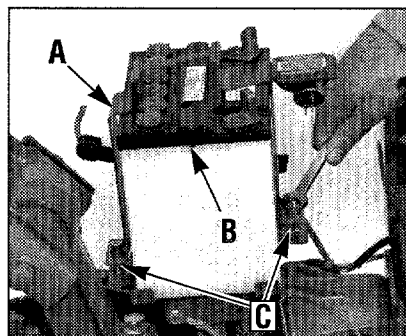

Figure 2-16: Battery shown installed backwards for shipping purposes only.
For shipping purposes, the battery and its hold-down clamp (A, Figure 2-16) were installed backwards at the factory. When reinstalling the battery and hold-down clamp, be sure to face them in the opposite direction from which they were shipped.
1. Remove the two 1-1/2" long screws and the two 1/4" whiz nuts that secure the front and rear hold-down clamp legs to the battery bracket (C, Figure 2-16).
2. If installed, remove and discard the short, plastic tubing (B, Figure 2-16) that covers the vent fitting on the negative-side of the battery.